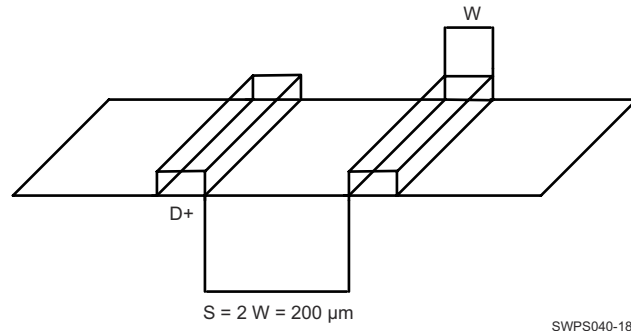

Figure 8-1. Ground Guard Illustration
- For a line width equal to W , the spacing between two lines must be $2W$, at least. This minimizes the crosstalk between switching signals between the different lines. On the PCB, this is not achievable everywhere (for example, when breaking signals out from the device package), but it is recommended to follow this rule as much as possible. When violating this guideline, minimize the length of the traces running parallel to each other (see Figure 8-1).